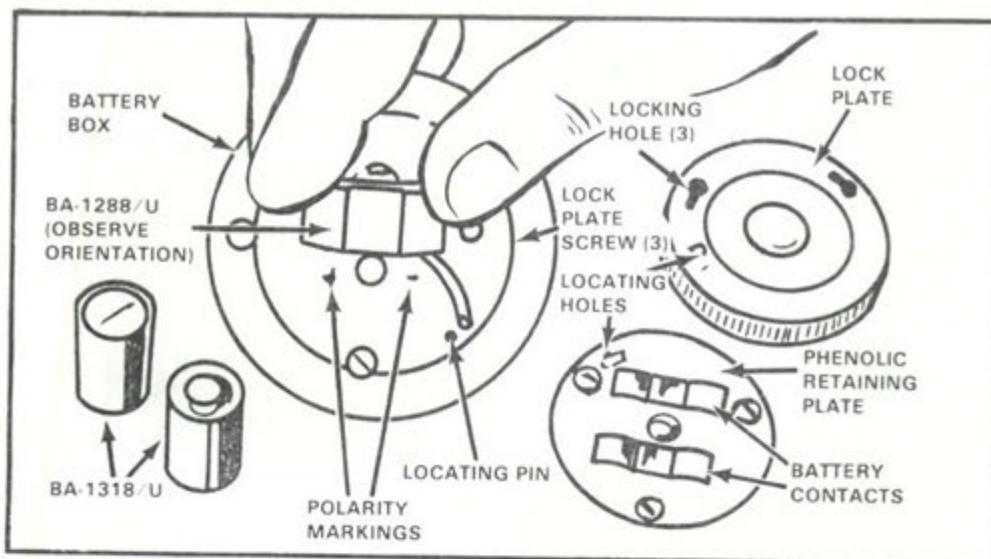

Figure 9. Installing batteries in battery box.
- d. Lift the phenolic retaining plate (figure 9) from the battery box.